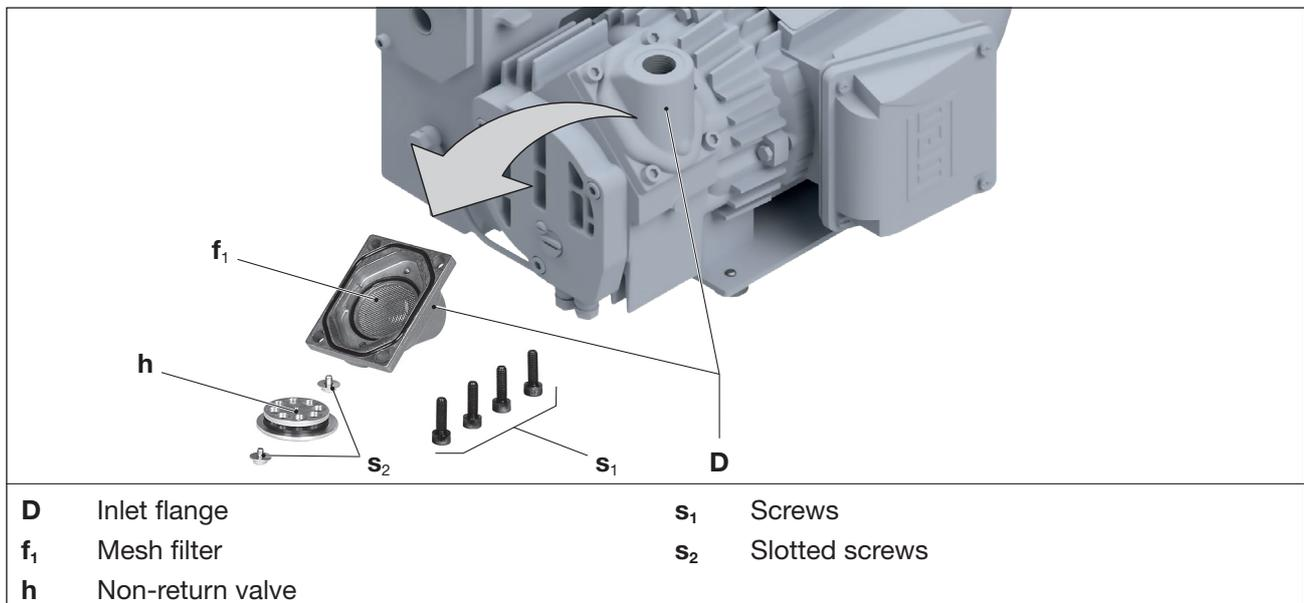

Fig. 6 Clean micro filter
Depending on the pollution of the inlet medium, the mesh filter (Fig. 6/f1) has to be cleaned more or less by washing or blowing off or it must be replaced.
- Release four screws (Fig. 6/s1) on the suction flange (Fig. 6/D) and remove the suction flange.
- Release two slotted screws (Fig. 6/s2) on the non-return valve (Fig. 6/h) and remove the non-return valve from the suction flange.
- Remove the mesh filter (Fig. 6/f1) from the suction flange and clean it.
- Insert the mesh filter (Fig. 6/f1) in the suction flange (Fig. 6/D) . After that, insert the non-return valve (Fig. 6/h) and fix it with the two slotted screws (Fig. 6/s2).
- Mount the suction flange (Fig. 6/D) on the pump using the four screws (Fig. 6/s1).